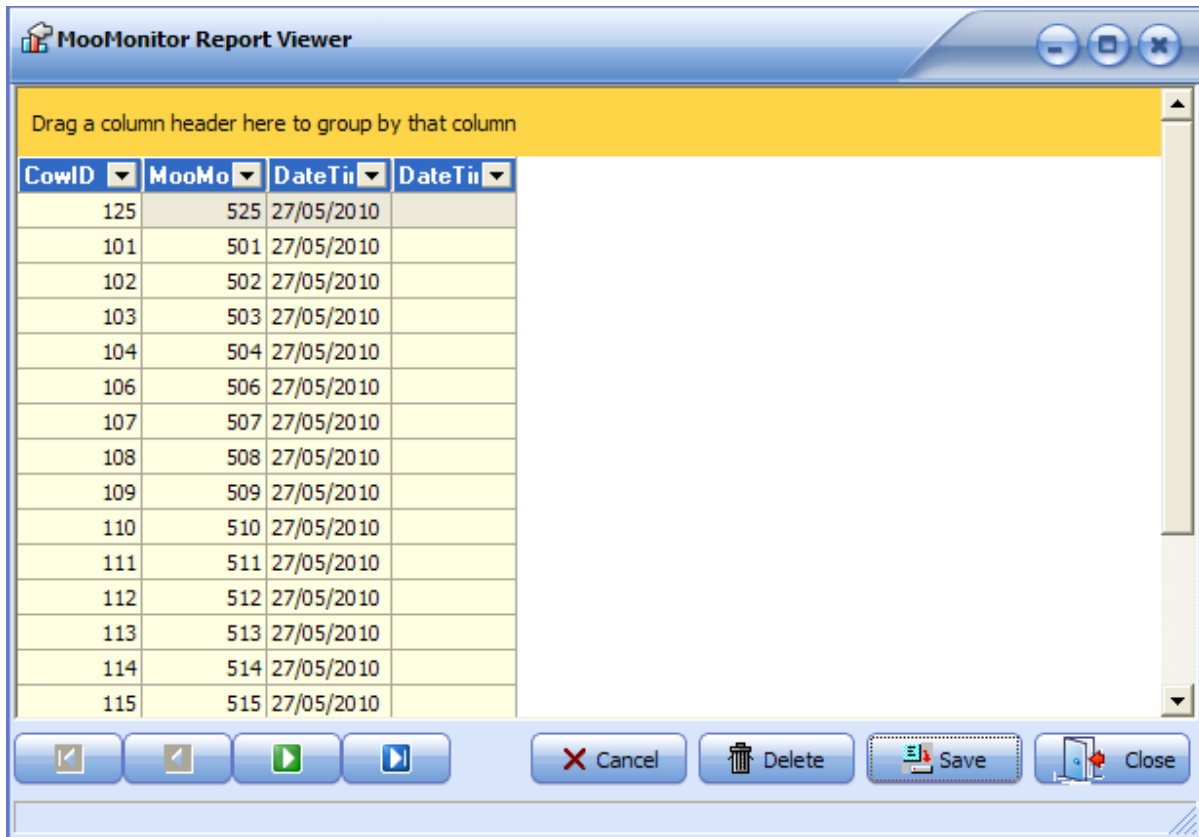

Figure 40 Edit a MooMonitor Assignment.
- The screen displayed in Figure 40 on the next page should be displayed.
- a. Highlight the record you wish to delete by clicking into any column in Figure 40 above.